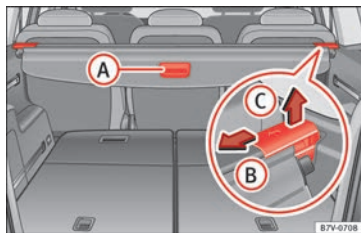

Fig. 163 In the luggage compartment: rear shelf
- Pull the shelf handle » » » **Fig. 163** Ⓐ a little bit backwards. » »
- Release the shelf in the direction of the arrow »» Fig. 163 (B).
- Lift the shelf off in direction of the arrow »» Fig. 163 (B).
- Release the shelf in the direction of the arrow »» Fig. 163 (B) and lift it in the direction of the arrow (C).